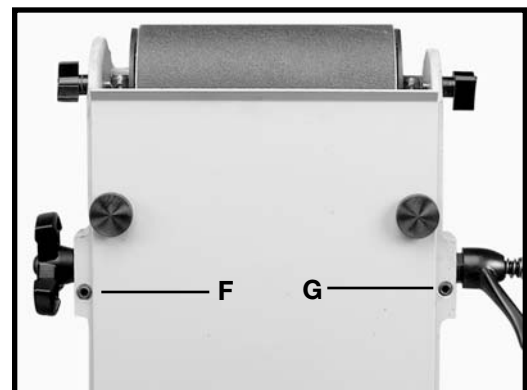

Fig. 20
NOTE: After a long period of time, adjustments may be necessary to maintain the tension and tracking of the sanding belt. If the belt will not hold its tension, tighten the set screw (G) Fig. 20. If the belt will not hold its tracking, tighten the set screw (F) Fig. 20. **NOTE: Make only small adjustments to these screws. Over-tightening will lock the tension lever and/or the tracking knob.**